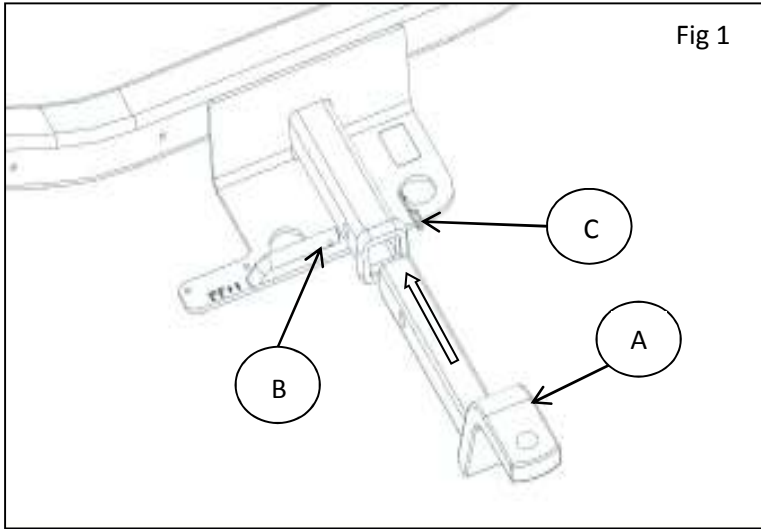

Fig 1
- 4) Remove factory tow hook shown in Fig 1 and Fig 3 (if Installed)
- 5) Remove center bolt from evap canister shown in Fig 1 and Fig 3
As shown in Fig 1.